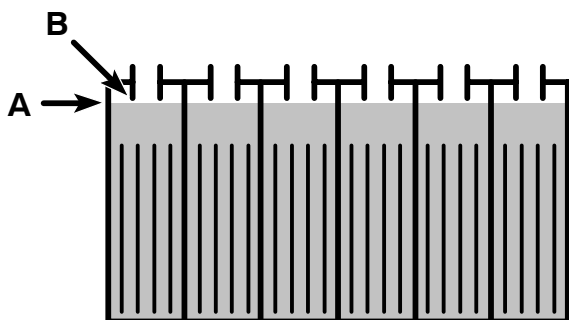

FIG. 24
8. After charging, check the electrolyte level (A) again. The level should be approximately 1 cm from the bottom of the fill-port (B) (Figure 24). Add distilled water if needed. DO NOT OVERFILL.